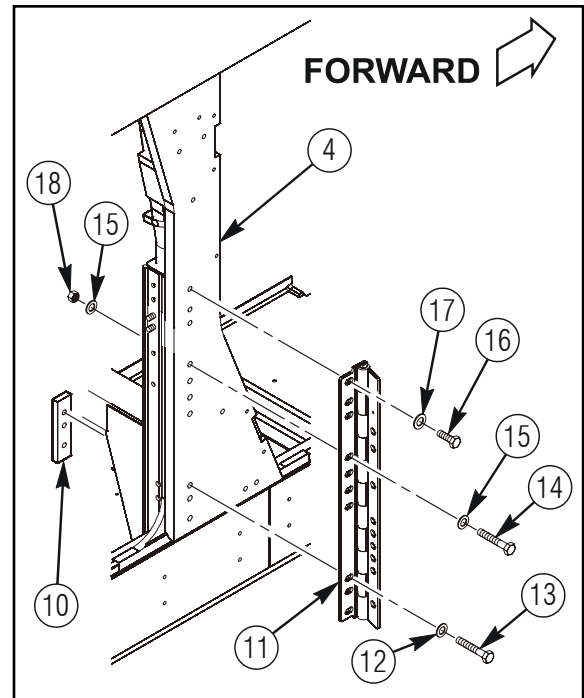

Figure 19b.
15. Apply 8030-01-025-1692 sealing compound to threads of three 4397000-060 capscrews (16) and three 4397000-067 capscrews (13). Refer to figure 19b.
16. Install 6435234-01M1 right side door hinge (11) on B-pillar plate (4) with three 4397000-060 capscrews (16) and 4397005-015 washers (17) as shown in figure 19b. Do not tighten capscrews (16) at this time.
17. Install three 4397000-067 capscrews (13), 4397005-015 washers (12), and one 6435235-01M1 B-pillar nut plate (10) as shown in figure 19b. Do not tighten capscrews (13) at this time.
18. Install four 4397000-067 capscrews (14), eight 4397005-015 washers (15), and four 4397064-005 locknuts (18) as shown in
figure 19b. Position capscrews (13, 14, and 16) in center of slotted holes in hinge (11), and tighten top and bottom capscrews (16 and 13) to 37 lb-ft (50.2 N·m), then snug up remaining capscrews (13 and 16) and locknuts (18).